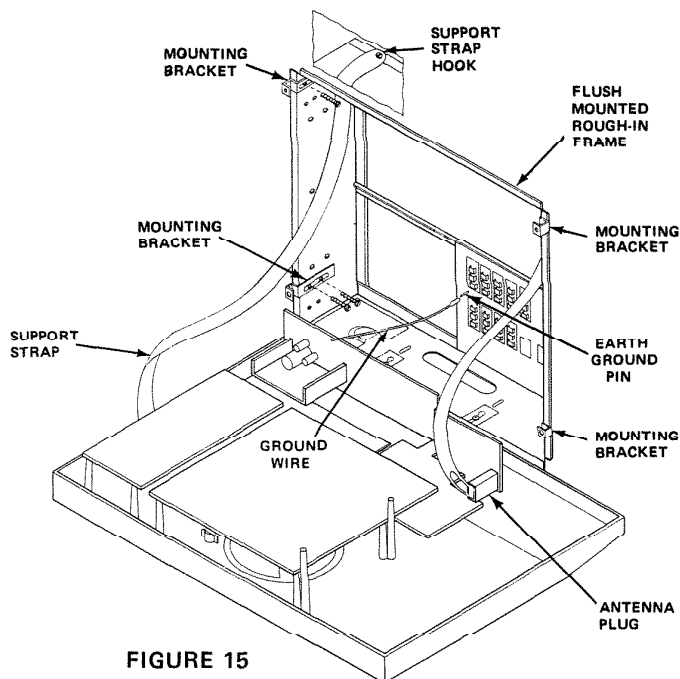

FIGURE 15
6. Attach support strap to rough-in by placing hook into hole in rear flange of rough-in frame. See Figure 15.
7. Use two No. 6 x 3/8" screws to attach each mounting bracket to rough-in frame. Make sure all four brackets are flush to wall or rough-in. See Figure 15.
9. Place antenna plug onto two pins on tuner board. See Figure 15.